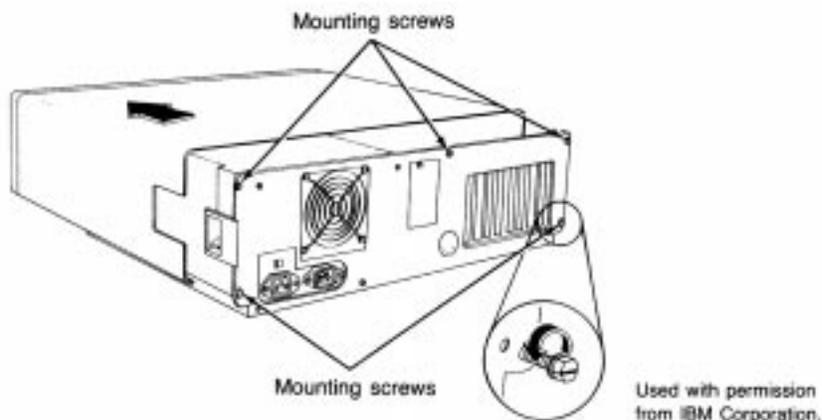

Fig. 3.12
2. Turn the system unit around so that you're facing the rear of the unit. Locate the screws that hold the system-unit cover in place (see fig. 3.12).